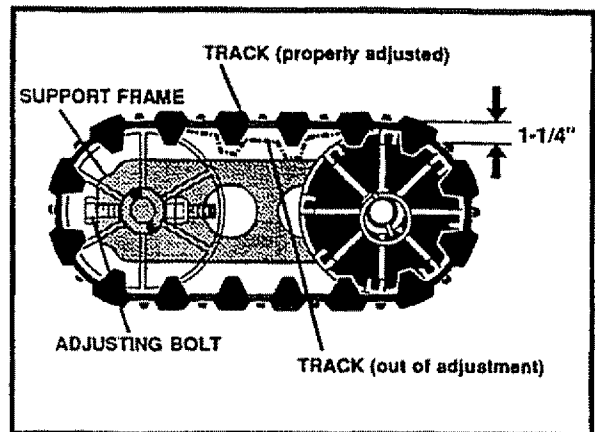

FIG. 36
Measure the distance between the track and the top of the track support frame (See Fig. 36). The distance should not be more than one and one-quarter (1-1/4) inches.
- Loosen or tighten the adjusting bolt at the rear of the track support frame (See Fig. 36) to obtain the proper distance between the track and the track support frame.